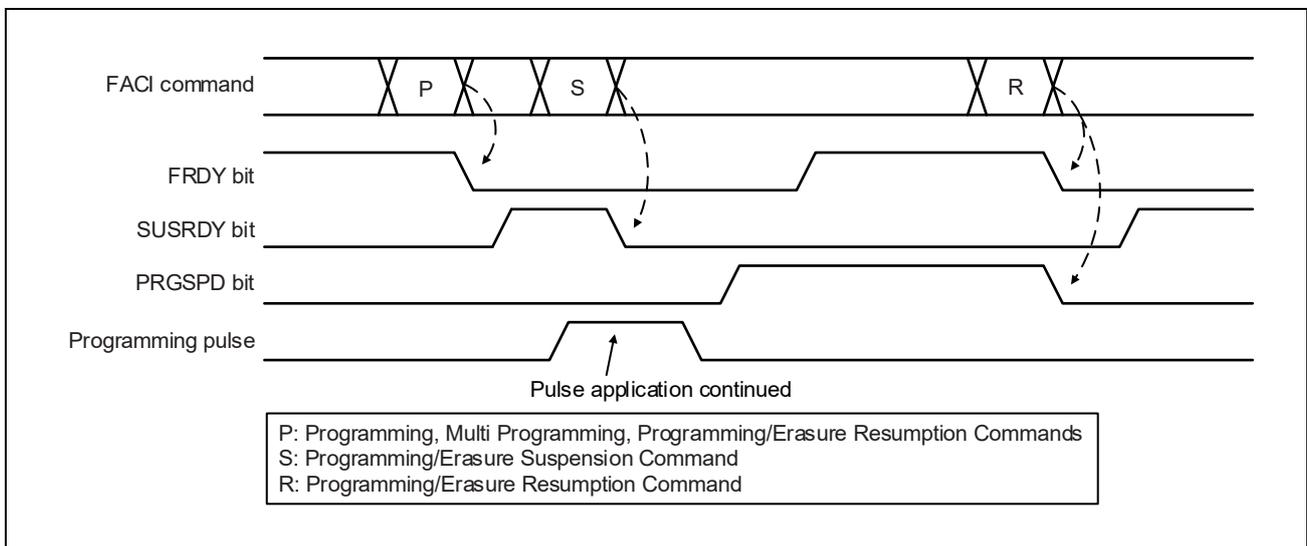

Figure 6.14 Suspend Programming Command
If a Programming/Erase Suspension Command is issued while the flash memory is being programmed, the flash sequencer suspends programming. **Figure 6.14** show the suspending operation. Once the flash sequencer enters a state where it is ready to accept the Programming/Erase Suspension Command after the start of programming, SUSRDY bit is set to 1. If the Programming/Erase Suspension Command is issued, the flash sequencer accepts the command and clears SUSRDY bit. If the flash sequencer accepts the command while applying a programming pulse, the flash sequencer continues applying the pulse. After a specified pulse application time has elapsed, the flash sequencer completes applying the pulse, suspends programming, and sets the FSTATR\_n.PRGSPD bit to 1. Once the suspension process is complete, the flash sequencer sets the FRDY bit to 1 and enters programming suspended state. If the flash sequencer accepts the Programming/Erase Resumption Command in this state, the flash sequencer clears the FRDY and PRGSPD bits to 0 and restarts programming.
**Figure 6.14** gives an overview of operation for suspending programming command processing. Upon accepting programming command, the flash sequencer clears FRDY bit to 0 and starts programming.